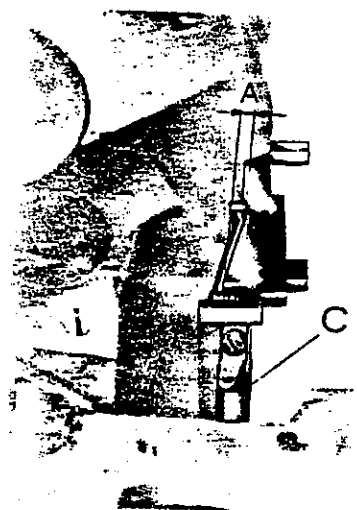

fig. 5
- Place timing gauge S.1686.00 on milled surface of base as shown in fig. 5; shift lever C and turn looper (which has been set in place but not locked) until correct angle is obtained.